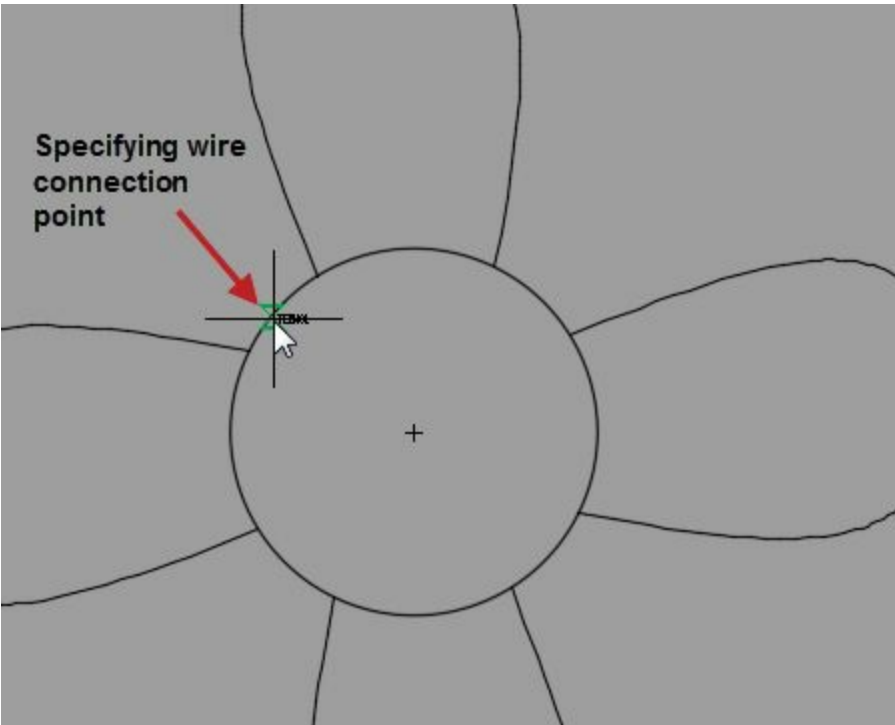

Figure-47. Specifying wire connection point
- Click on the object to specify the point; refer to Figure-47.